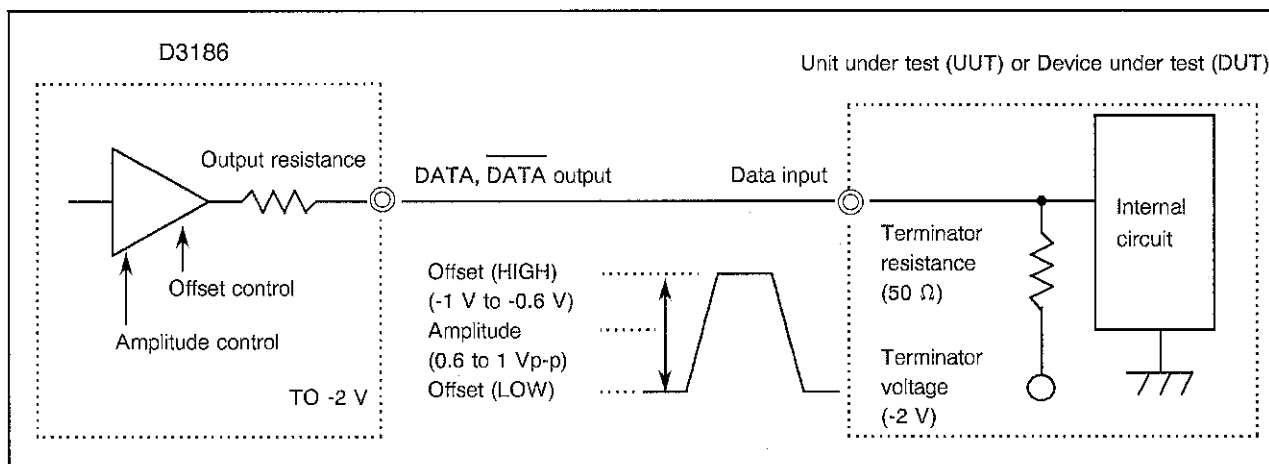

Figure 4-2 DATA and  $\overline{\text{DATA}}$  Output, DC Connection, -2 V Termination, and ECL Level
- (2) When the UUT/DUT data input connection is DC and the terminator voltage is -2 V. ECL level (see Figure 4-2.)